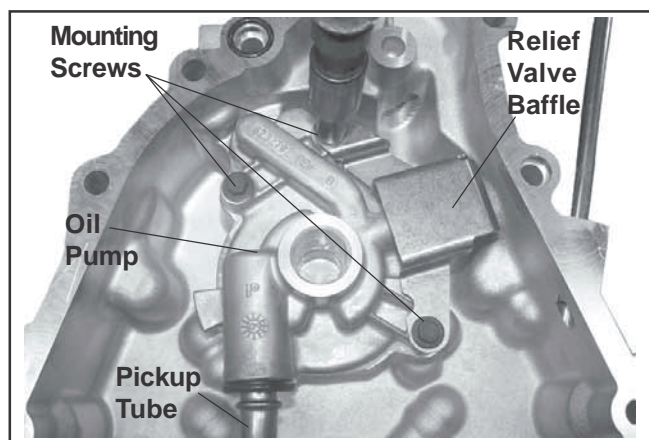

Figure 9-13. Removing Oil Pump.
1. Remove the three hex flange screws securing the oil pump housing including the relief valve baffle, and the single screw with clamp for the pickup tube. See Figure 9-13.